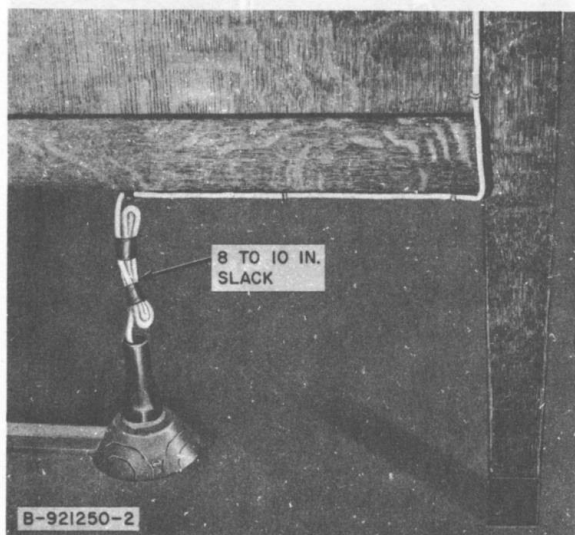

Fig. 7—Wiring to Desks and Tables—No Station Tubing Used
2.04 Methods of wiring to desks and tables when no station tubing is used as shown in Fig. 7.